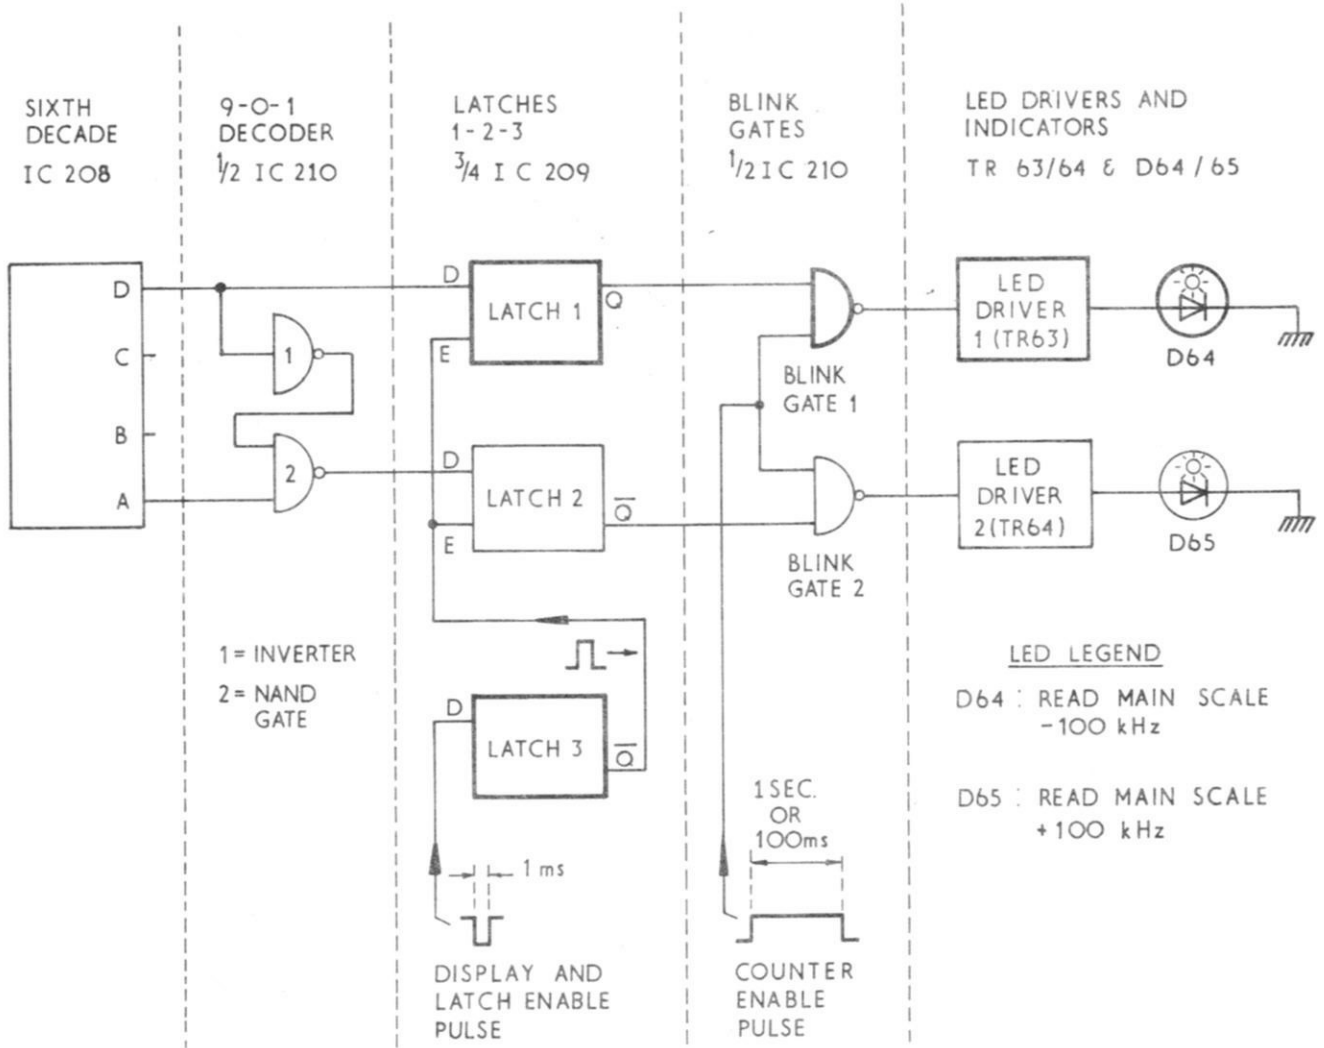

Fig. 2.11 LED control circuits.
The 'A' output on the other hand, is not directly usable because its output state rests at '1' for both conditions where the LED's must flash. This output will be dealt with later after first considering the action of the various stages associated with D64. These stages are shown in heavier outline in Fig. 2.11 which shows the remaining circuit elements used to operate both LED's.
7. The method whereby the 'A' output of IC208 is adapted to initiate the flashing action of the other LED (D65) will now be considered (see Fig. 2.11).